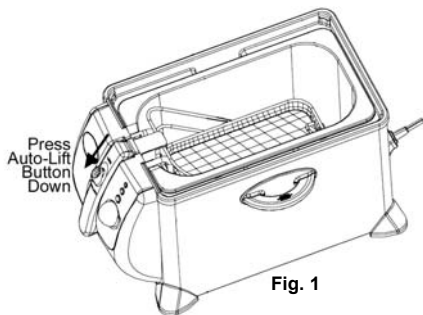

Fig. 1
- Press down on the Auto-Lift Button on the basket handle to raise the basket up and remove the basket assembly from the deep fryer. (Fig. 1 & 2)